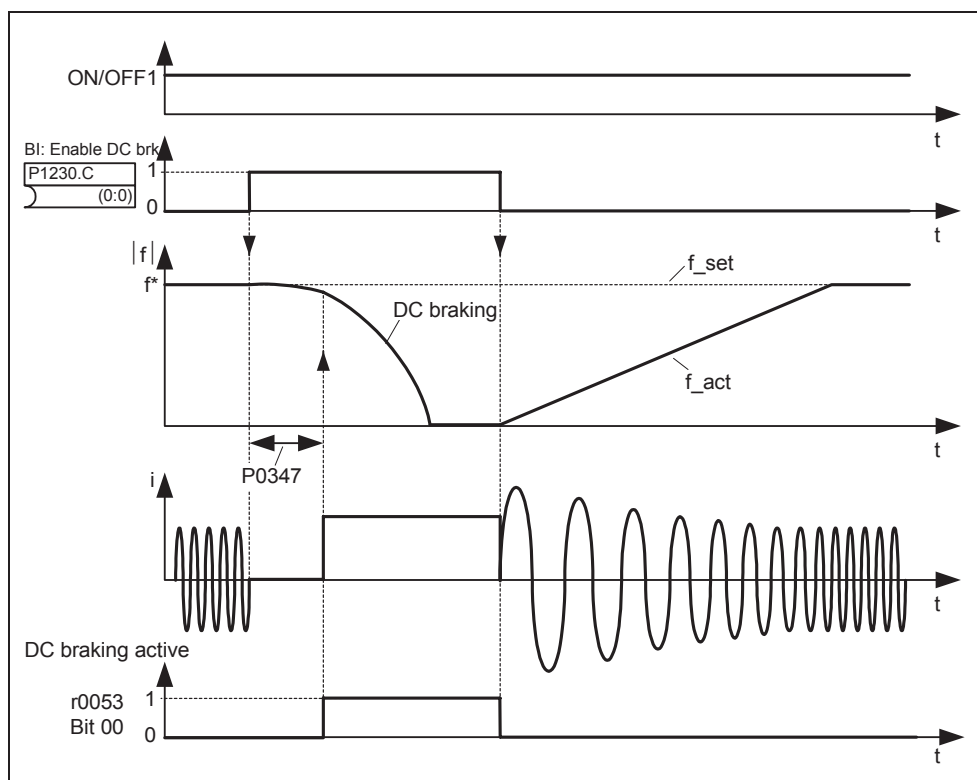

Fig. 3-52 DC braking after external selection
1. Enabled and selected using BICO parameter P1230 (refer to Fig. 3-52)